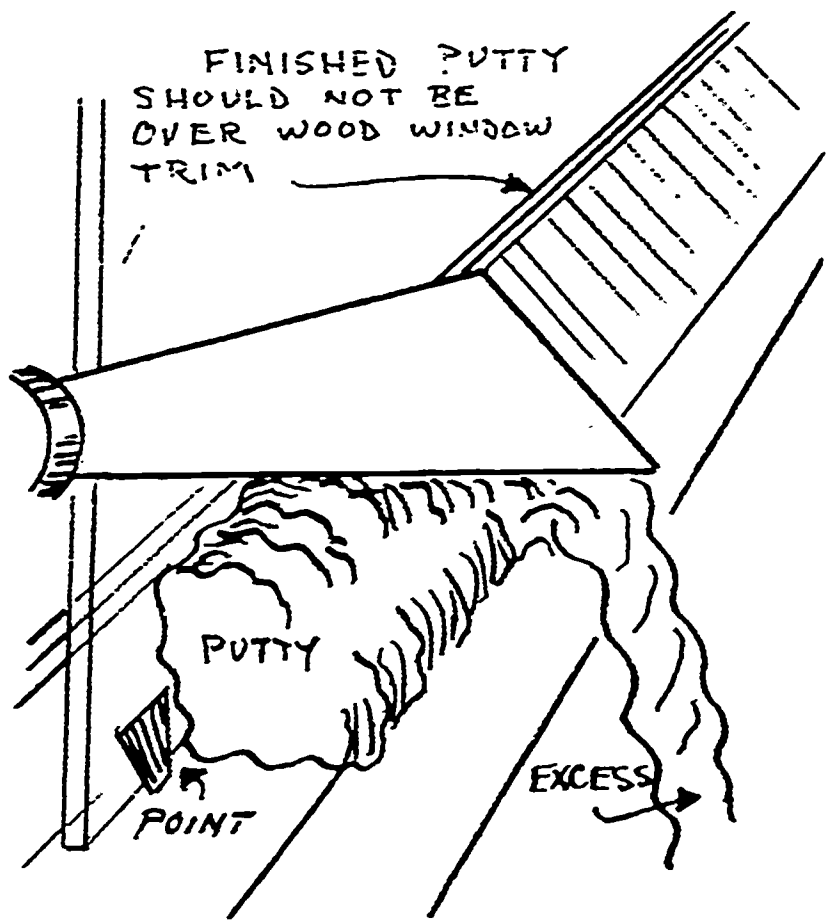

FIG. 243
1. Lay in a bead of glazing compound and trim with putty knife. The putty should not be thicker than the interior wood sash frame. See figure 243.